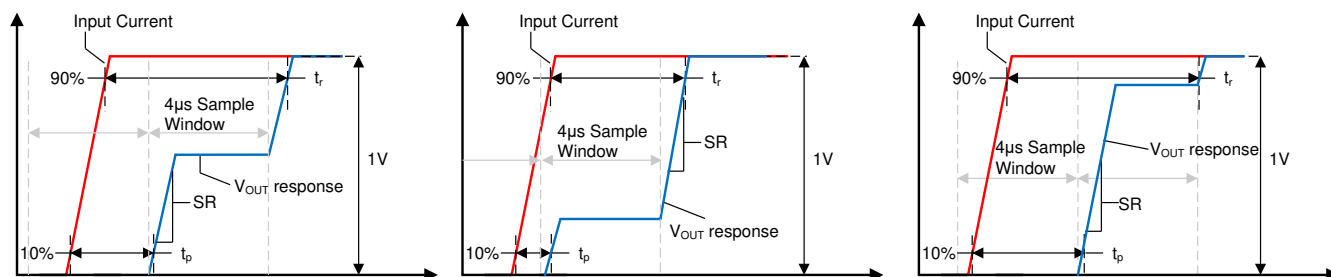

图 8-3. Small Current Input Step Transient Response
Slew rate (SR) is defined as the V_{OUT} rate of change for a single integration step's output transition, as shown in 图 8-3. Because the device often requires two sampling windows to reach a full 90% settling of its final value, this slew rate is not equal to the 10%-90% transition time for the full output swing.
Propagation delay is the time period between the input current waveform reaching 10% of its final value and V_{OUT} reaching 10% of its final value. This propagation delay is heavily dependent upon the alignment of the input current step and the sampling period of the TMCS1100, as shown for several different sampling window cases in 图 8-3.
Response time is the time period between the input current reaching 90% of its final value and the output reaching 90% of its final value, for an input current step sufficient to cause a 1-V transition on the output. 图 8-3 shows the response time of the TMCS1100 under three different time cases. Unless a step input occurs directly during the beginning of one sampling window the response time will include two sampling intervals.